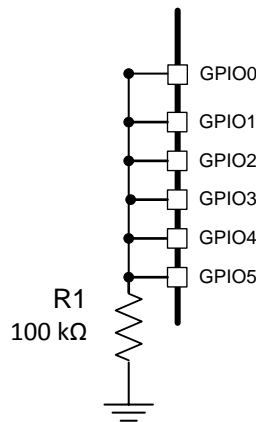

Figure 10. Example of GPIOs Configured as Input Without External Source
- GPIO pins are all programmed as inputs, no pullup or pulldown resistors are enabled, leaving the inputs floating. The pins should not be allowed to remain as floating inputs. Reprogram the pins to become outputs or add a pullup or pulldown as shown in Figure 10, if none are provided externally.